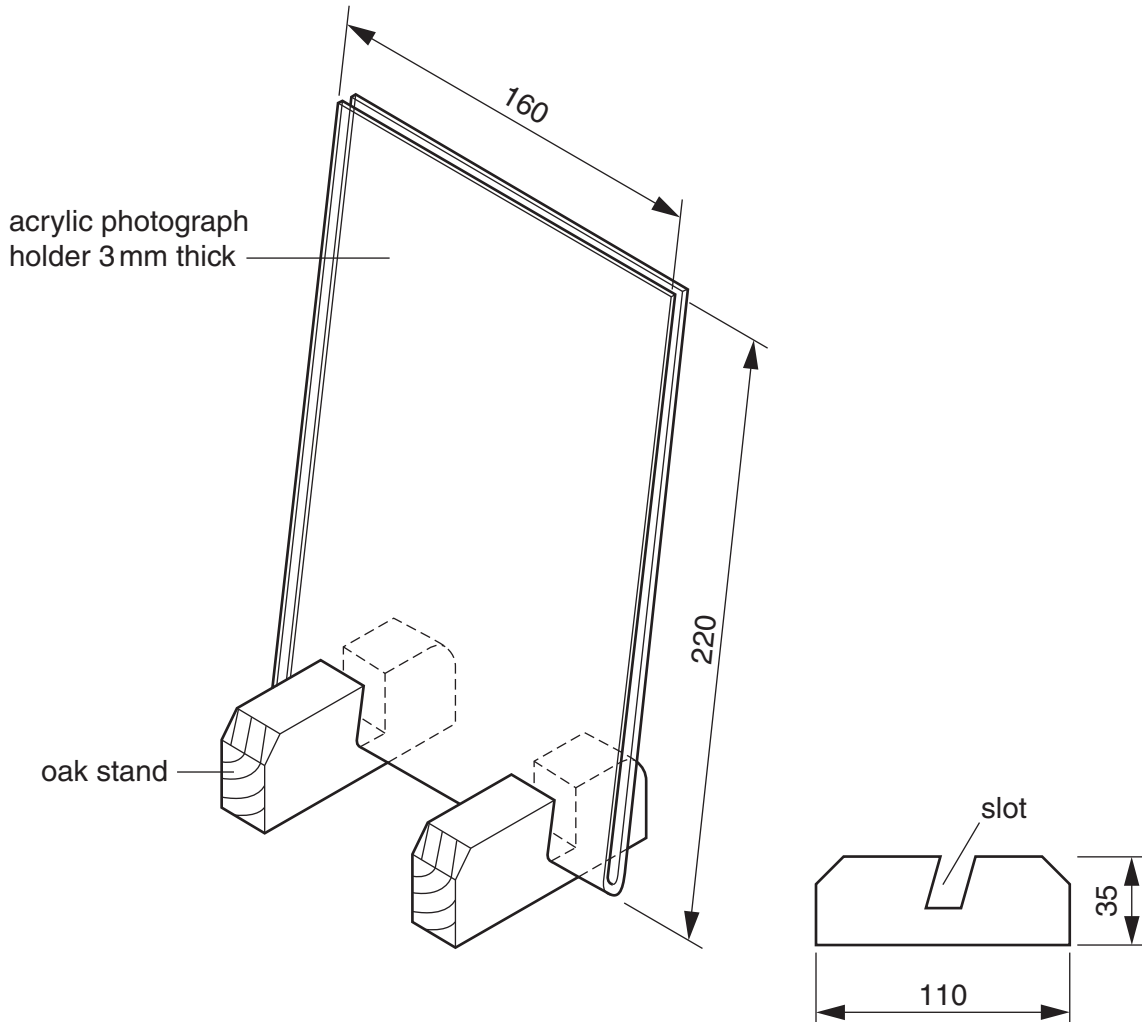

Fig. 1
- 1 Fig. 1 shows views of a photograph holder and stand.
- (a) A slot is made in the oak stand (Fig. 1).